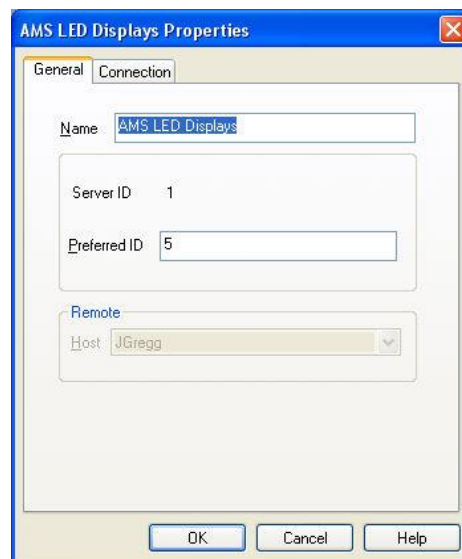

Figure 30
4. The AMS LED Displays Properties dialog appears (Figure 30). Select the *General* tab.